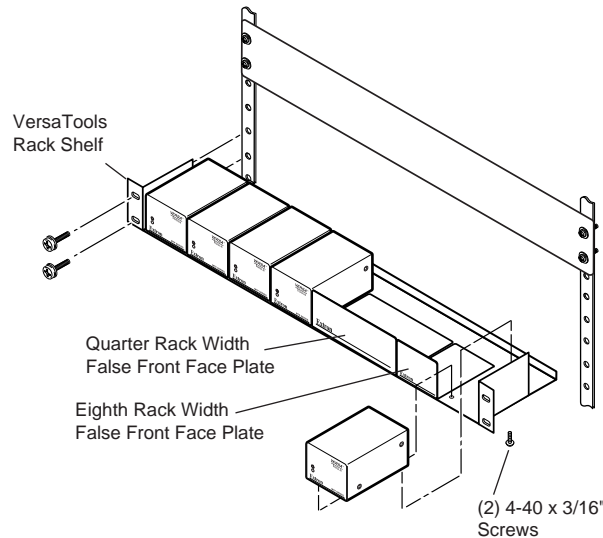

Figure 2-8 — Mounting the MTPs on a VersaTools rack shelf
- VersaTools® 19" 1U rack shelf kit (part #60-190-20) (figure 2-8)
The following Underwriters Laboratories (UL) requirements pertain to the installation of the MTP transmitter or receiver into a rack (figure 2-8).